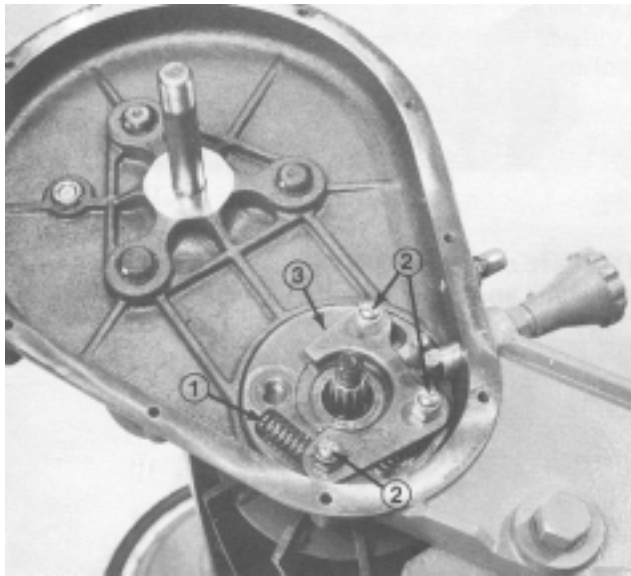

Figure 26
13. Remove the lower compression spring. Disassemble the ratchet ring from the ratchet gear ring by removing three (3) locknuts and prying equally around the ratchet ring (Fig. 26). Be extremely careful to prevent damage to the mating surfaces.